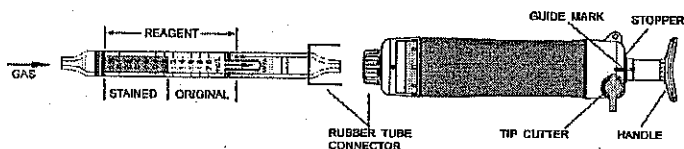

Fig.1
- ② Insert the detector tube into the aspirating pump securely as shown in Fig.1. (Arrow mark shall point to the pump.)
- ③ Align the guide marks on the handle and stopper of the aspirating pump.
- ④ Pull the pump handle to a full stroke until it locks and wait for 1 minute or until the completion of sampling is confirmed with the flow indicator of the pump (See descriptions about the flow indicator in the instruction manual of the pump).
- ⑤ On completion of sampling, read the scale at the maximum point of the stained layer.